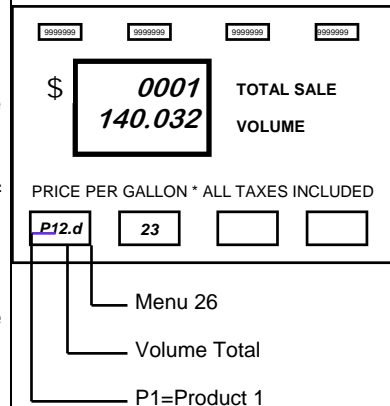

Figure 26.3
1. Press the ↓ button. The main display indicates Hose 1 volume totals. See Figure 26.3.
The main display shows the total volume amount. For example: If the total volume amount for the dispenser were 1,140.032 gallons, the display would appear as in Figure 26.3.